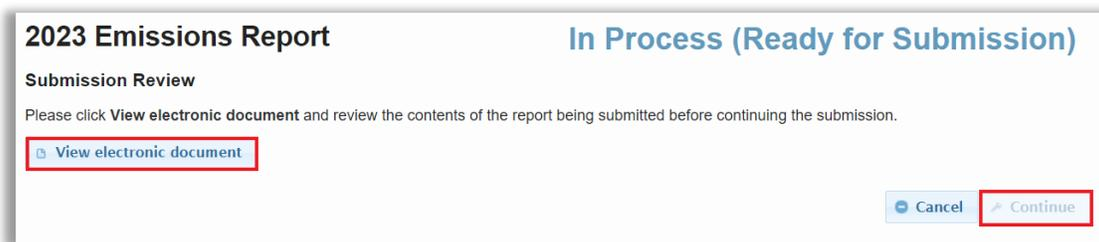

Figure 16-5 View Electronic document
Step 6: Click **Continue**. See Figure 16-5.